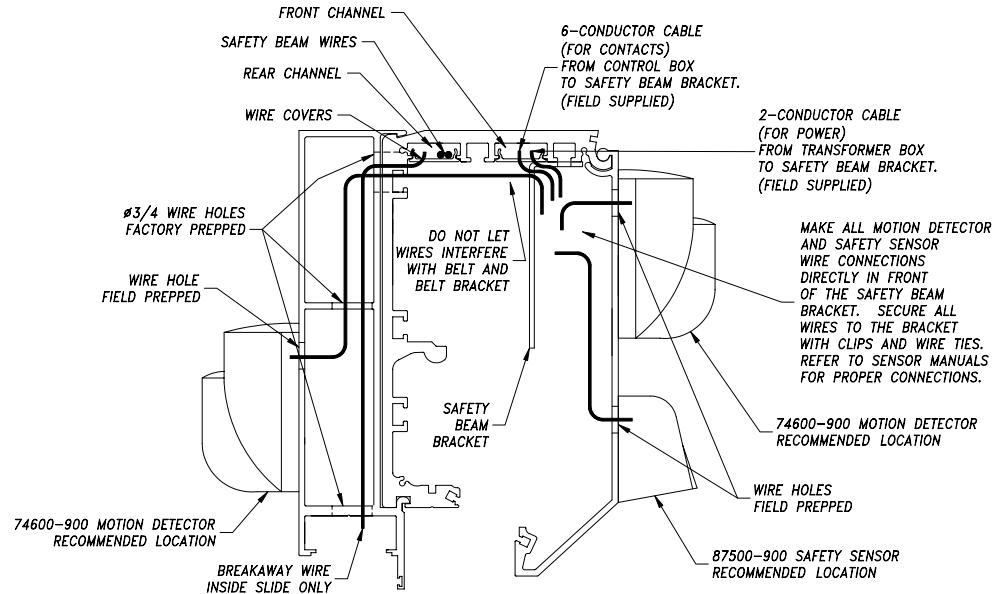

FIGURE 1: Header Cross Section
- Cut the wire cover into several pieces 6" to 10" long, and install as needed (Figure 1).
- Install a length of 6-conductor cable from the control box to the center of the door opening and a length of 2-conductor cable from the transformer box to the center of the door opening in the front wire channel with the pieces of plastic wire cover (Figure 1). These cables are for the motion detectors (P/N 74600-900) and safety sensor (P/N 87500-900).
- Install the motion detectors and safety sensor at the recommended height locations in the center of the door opening (Figure 1). Note the factory prepped wire chase holes in the header and header extension (Figure 1).
- Slide the safety beam bracket to the center of the door opening. Make all wire connections for the sensor and motion detectors in front of and secured to the safety beam bracket (Figure 1). Refer to the individual sensor manuals and the 96K Control Box Manual (P/N 96010-084) for the proper wiring connections.